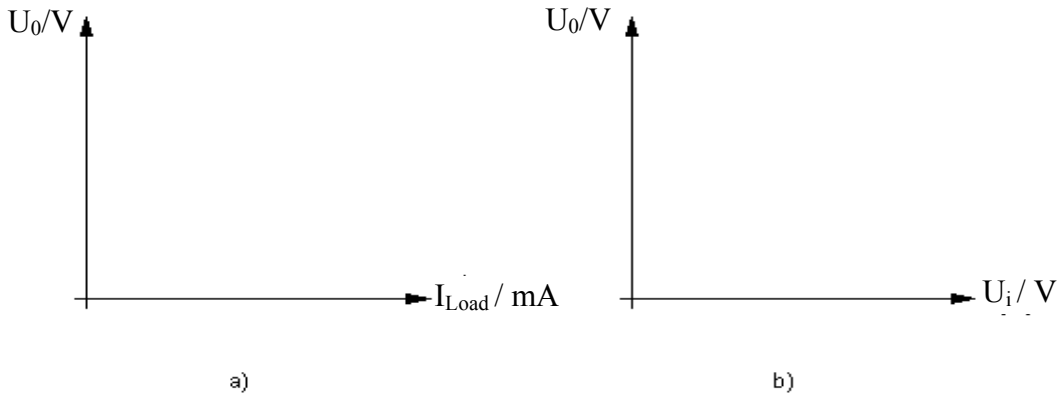

Fig. 5.5
- draw in Fig.5.5-b the diagram of the output voltage as a function of the input voltage  $U_o = f(U_i)$ ;